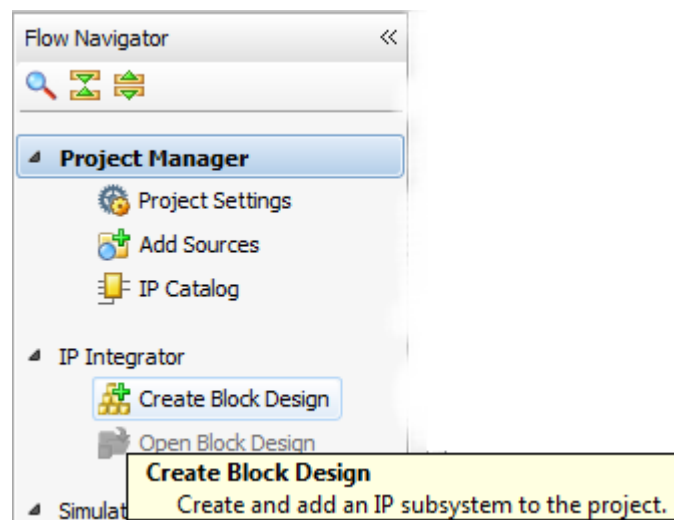

Figure 2.4: Creating a new Block Design in Flow Navigator
- (a) In the *Flow Navigator* window, select **Create Block Design** from the *IP Integrator* section, as in Figure 2.4: